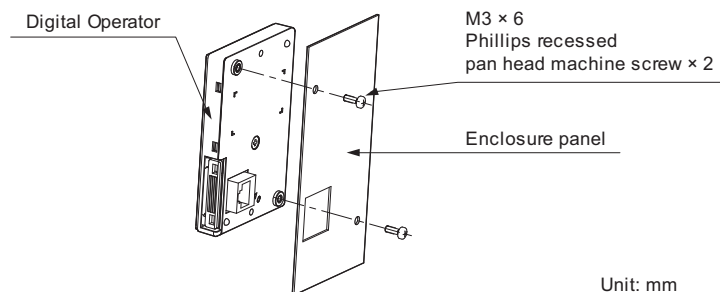

Figure 2.5 External/Face-Mount Installation
2. Position the digital operator so the display faces outwards, and mount it to the enclosure panel as shown in Figure 2.5.